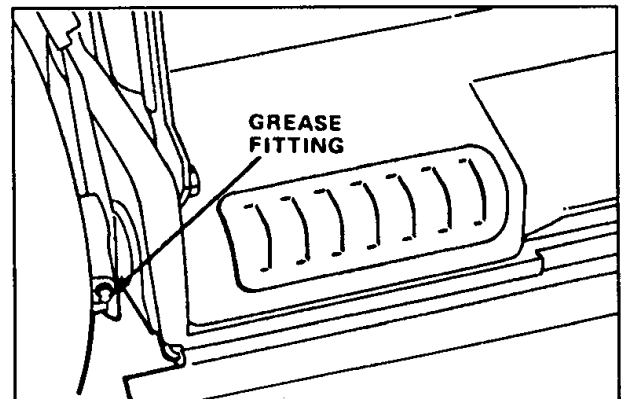

Figure 24
2. Move rear wheel height-of-cut levers to "C" setting. Wipe grease fittings with clean rag (Fig. 24). Install grease gun onto fitting and gently apply two or three pumps of #2 Multi-Purpose Lithium Base Grease.